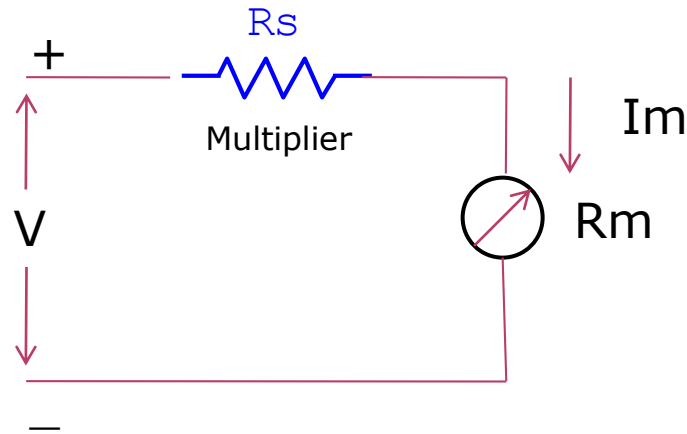

Figure 2.5: Basic DC Voltmeter
- From the circuit of Figure 2.5: